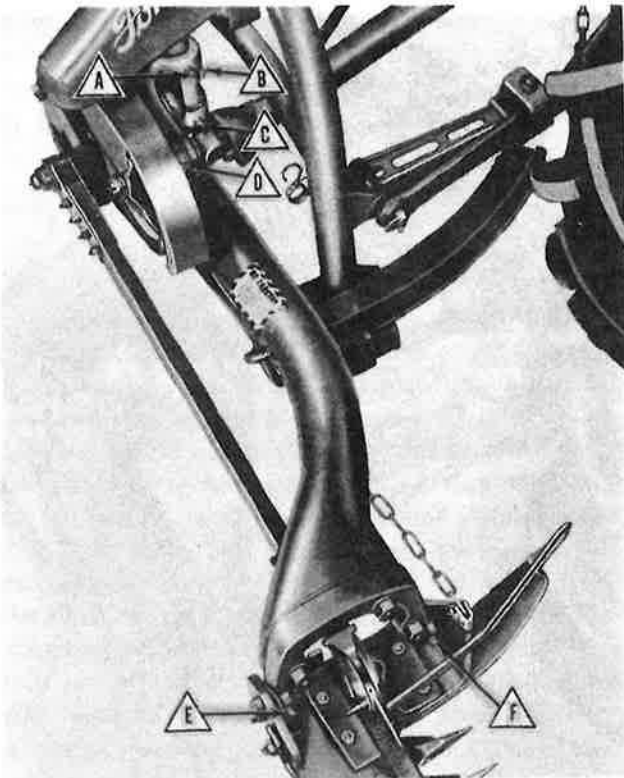

Figure 13
The Series 501 Mower has eleven grease fittings which should be lubricated as recommended to protect the wearing parts and prolong the life of the mower. The flywheel shaft housing (D), Figure 12, and the pulley shaft housing (D), Figure 13, have large grease reservoirs which should be well greased when the mower is new. When lubricating the universal joints (A) and (C), Figure 12, use a sufficient quantity of new grease to flush the old grease from the bearings and replace it with clean grease. When greasing the the frame hinge bearings (A) and (C), Figure 13, only one stroke of the grease gun is required. Always keep the P.T.O. drive shaft and telescoping shield (B), Figure 12, thoroughly lubricated to prevent binding.